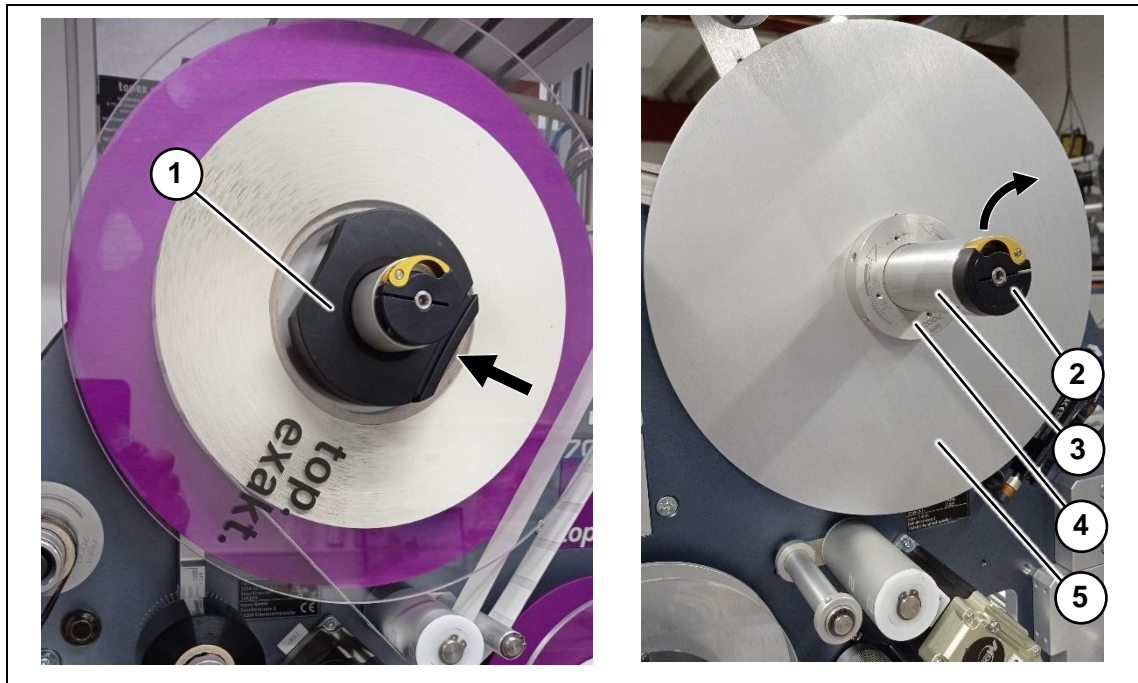

Figure 19 Replacing the roll core
- 2 Remove the front flanged wheel (Figure 19, pos. 1) of the label unwinder by pressing and holding the clamping ring.
- 3 Open the lever of the clamping ring (Figure 19, pos. 2) on the quick-change unit.
- 4 You can now entirely remove the entire roll core, core support and rear stop disc unit (Figure 19, pos. 3 + 4 + 5).